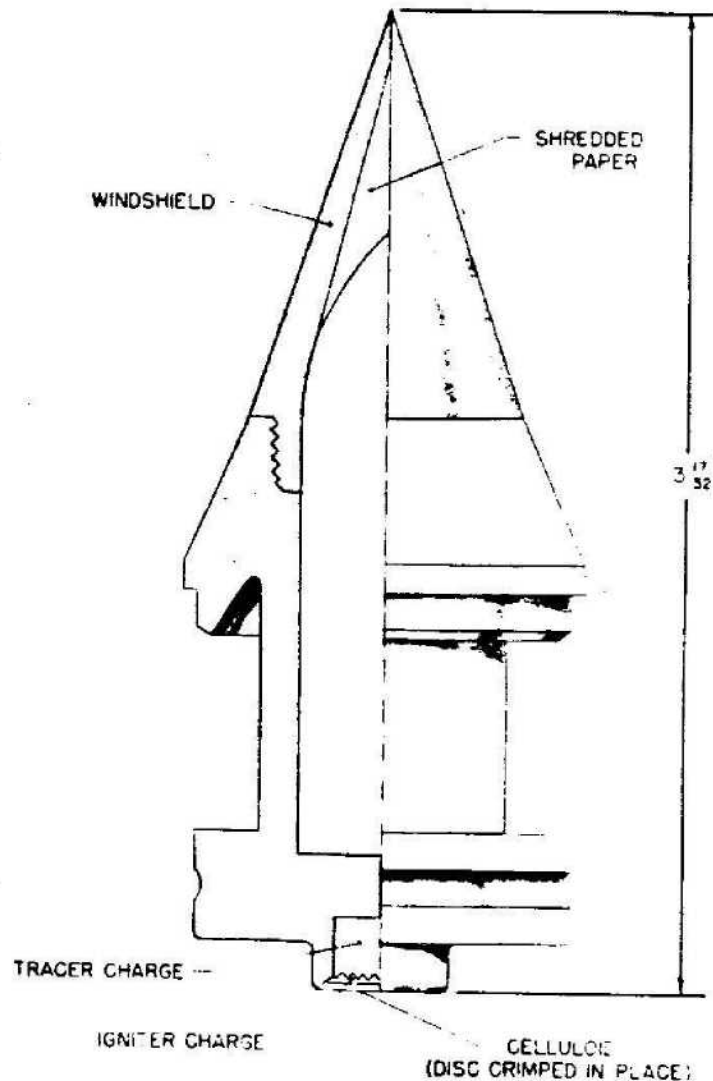

Figure 340—A. P. Projectile with Core (Arrowhead Design), 37-mm, 3.7-cm Pzgr. Patr. 40
**GERMAN NOMENCLATURE:** 3.7-cm. Pzgr. Patr. 40 (Panzergranate Pateonen 40) (see fig. 340.)